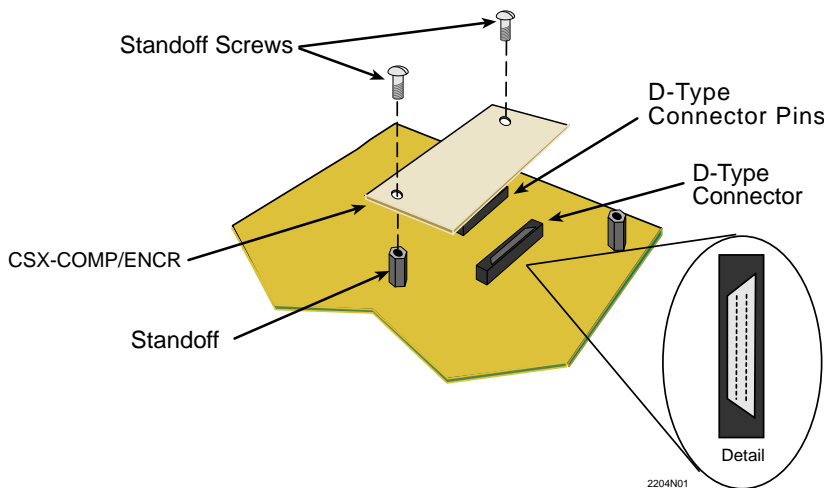

Figure 6 CSX200-COMP/ENCR Installation
5. Locate the D-Type connector and the standoffs on the chassis (refer to **Figure 6**).